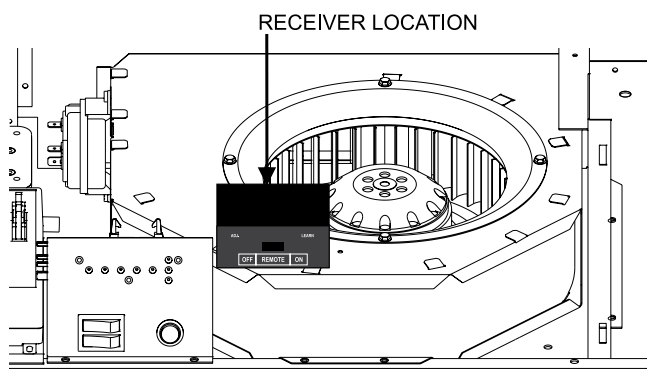

Figure 69
- A. With main electrical power to the fireplace turned off, install 4 AA sized 1.5V batteries into the remote receiver. The remote receiver is located inside the fireplace, mounted to the top of the blower housing and secured with hook and loop tape. See Figure 69. Set up receiver and remote per instructions on pages 41 - 46.